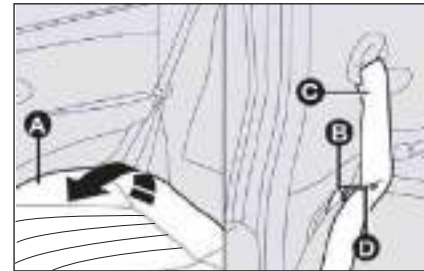

fig. 105
- ❑ check that each of the two side seat belts **C-fig. 105** is inserted in the corresponding seat belt guide **D**;